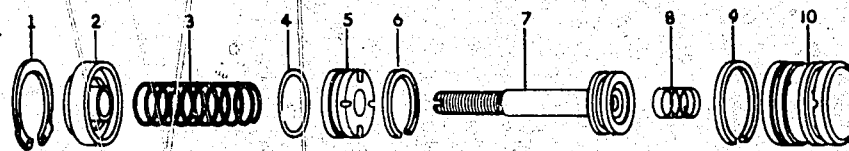

FIGURE 3
NOTE: Unless otherwise noted, numbers in parentheses refer to illustration numbers in Figure 3.
| <ol style="list-style-type: none"> 1) Remove nut, tab washer and stop plate assembly from threaded shaft of manifold piston (7). 2) Remove spring retaining ring (1) with a pair of No. 1 "Tru-Arc" pliers, Bacharach part number 72-5001. 3) Remove complete piston assembly (See Figure 3) from governor cover assembly.